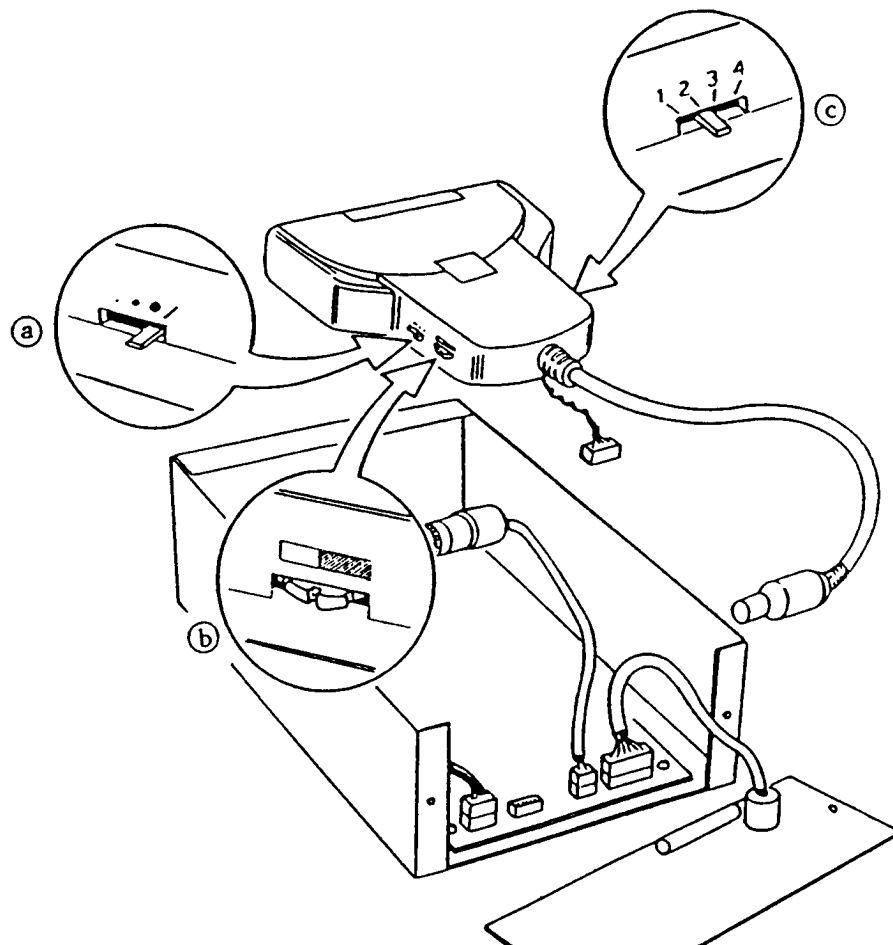

**Figure 5-11 Repacking the keyboard**
8. Repackage the replaced keyboard (Figure 5-11) for return shipment.